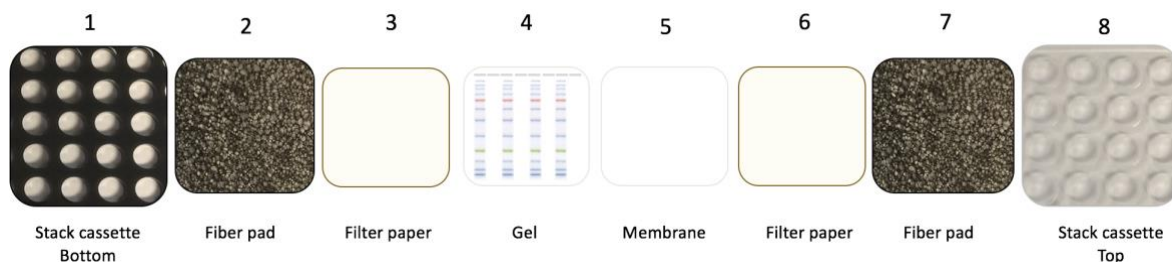
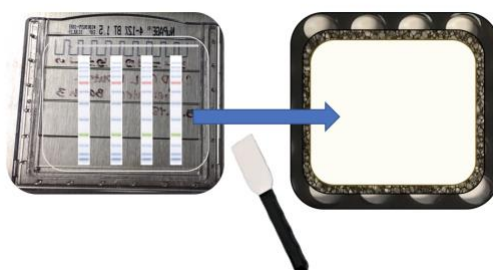

Figure 2. Transfer stack layer composition
Figure 3. Gel transfer schematic
1. Place stack cassette into Pyrex drying dish with the **black side facing down** (Refer to **Figure 2**).
2. Pour chilled 1× NuPAGE Transfer Buffer into Pyrex drying dish so that the black side of stack cassette (1) is submerged.
5. Carefully move gel from cassette to top of wetted filter paper using gel knife (see **Figure 3**). Ensure gel knife is wetted with transfer buffer so not to tear the gel.